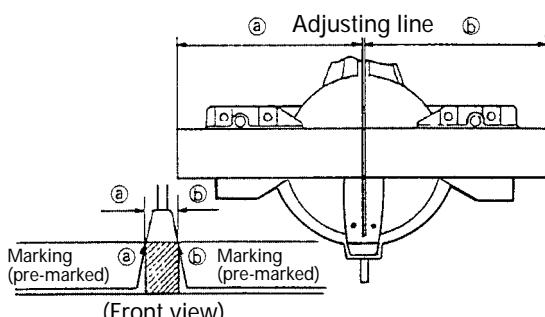

Fig. 21
- (1) As shown in Fig. 21 the width of the saw blade is the width of the cut. Therefore, slide the workpiece to the right (viewed from the operator's position) when length ⑤ is desired, or to the left when length ④ is desired.